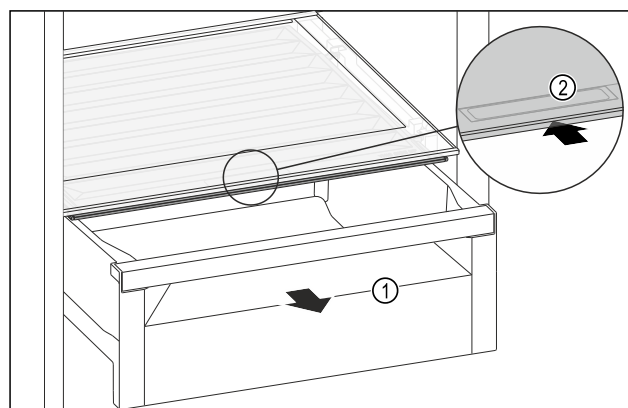

Fig. 106
- Pull out the drawer *Fig. 106 (1)*.
- Grasp the recessed grip *Fig. 106 (2)* on the compartment lid and push the compartment lid backwards at the same time.